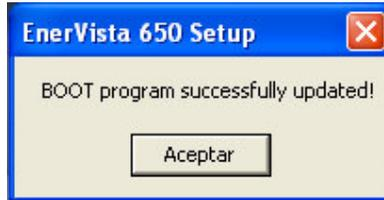

FIGURE 9-20: BOOTWARE UPGRADE SUCCESSFUL PROCESS
9.2.17 After assigned the Ethernet parameters, the upgrade of the boot code will be completed successfully (Figure 9-20).